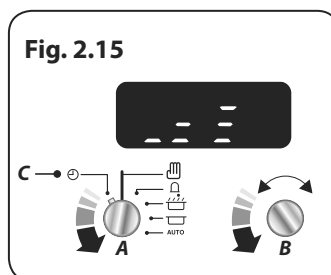

Fig. 2.15
Turn the **Timer (A)** knob to the **Clock (C)** setting. Turn the **Adjusting (B)** knob counter clockwise until the tone bars are displayed (**Fig. 2.15**).